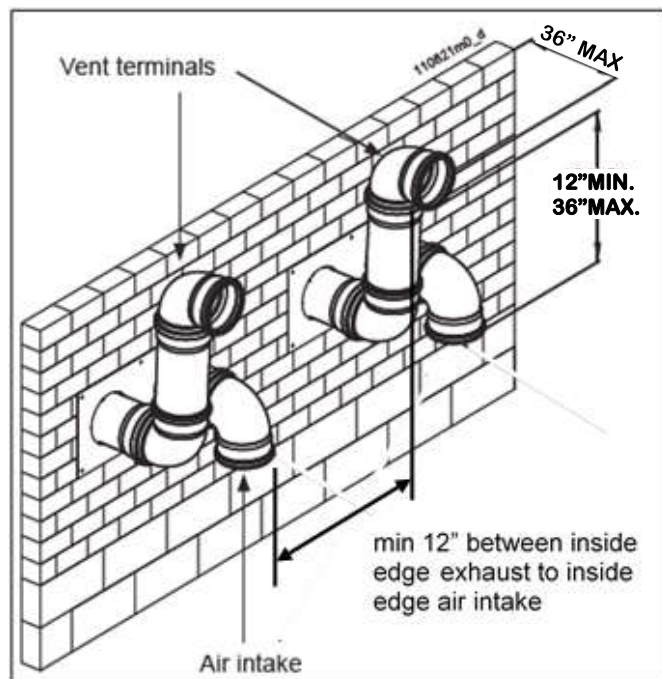

Figure 11.18
When two (2) or more direct vent appliances are vented near each other, each appliance must be individually vented. NEVER common vent or breach vent this appliance. When two (2) or more direct vent appliances are vented near each other, these must be installed as shown in figures 11.18 or 11.22. It is important that vent terminations be made as shown to avoid recirculation of flue gases.